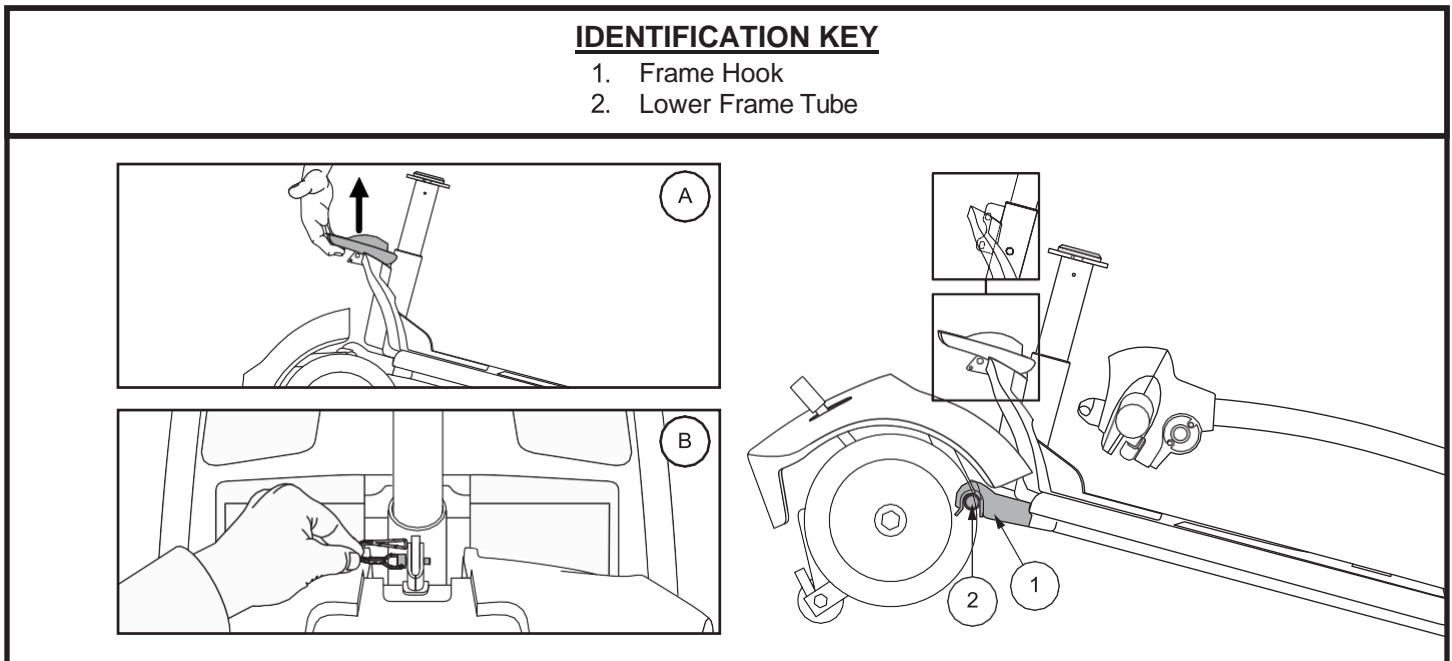

Figure 33. Frame Release Lever (Style A) and Frame Release Lock-up Pin (Style B)
3. Slowly separate the two sections of the Travel Scooter. **See figure 33.**
**NOTE:** Before attempting assembly, tilt the rear half of the Travel Scooter slightly back on the anti-tip wheels as shown in figure 33.
1. Use the frame release lever to lift the front section as you align the frame hooks of the front section with the lower frame tube of the rear section. **See figure 33.**